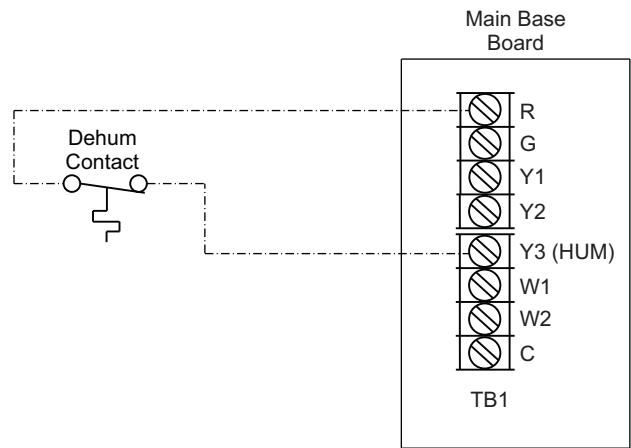

Fig. 43 — Humidistat Connections to MBB (2-Stage SystemVu Units)
6. For 2-Stage SystemVu controller units connect one of the leads from the 2-conductor cable to the Y3 (HUM) terminal on the MMB (Main Base Board). Connect the other lead to the R terminal on the MMB. See Fig. 43.